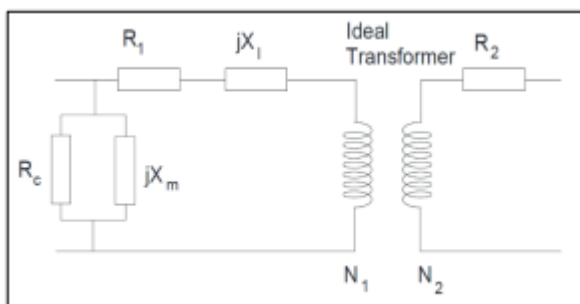

Figure 3
Using this test we are able to find values for  $R_c$  and  $X_m$ . In order to do this we must open circuit the secondary side of our transformer, hence the name open circuit test. The equivalent circuit can then be modelled in Figure 3 below. Looking at the circuit we note that the primary current will be very low in comparison to its rated current, and so we discount the voltage drop across the primary winding resistance,  $R_1$ , assuming that it is negligible. Furthermore we can assume that the current flowing through  $X_1$ , leakage reactance in the primary coil of our transformer, and  $R_2$ , the secondary winding resistance, is approximately 0A and so we can further reduce the circuit to the parallel combination of  $R_c$ , resistance for total core loss due to Eddy currents and hysteresis in transformer, and  $X_m$ , magnetising reactance in the primary coil of our transformer.
- We set up the circuit as in Figure 3 with the primary voltage at 220V.